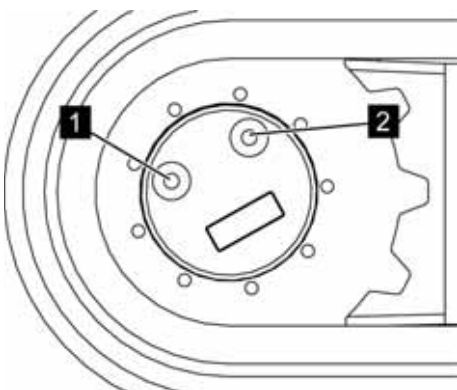

Fig. 142: Checking the oil level
6. ➤ Check the oil level visually. The gearbox must be filled with oil up to the lower edge of the threaded hole (Fig. 142/1).
7. ➤ If necessary, top up gearbox oil (Item no. 3917/0122)(☞ Chapter 3 'Technical data' on page 43). To do this, tip oil slowly through the hole (Fig. 142/2) until it reaches the lower edge of the threaded hole (Fig. 142/1).